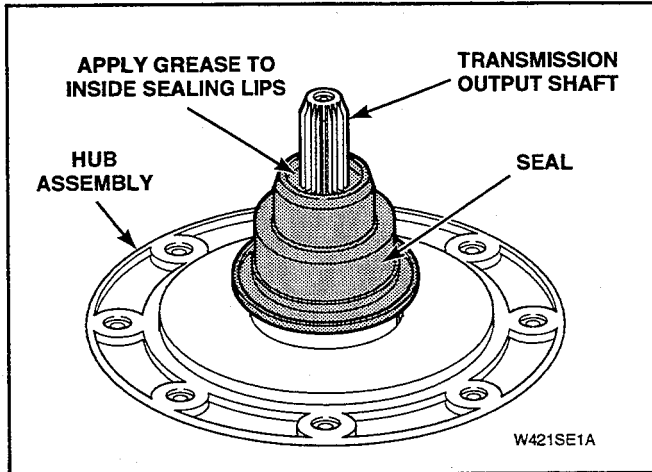

Figure 5-13
- Lubricate new seal with liquid soap or soapy water to aid in assembly of seal onto hub. See Figure 5-13.
- Apply a small amount of supplied grease, No. 36765P, to inside sealing lips of seal. See Figure 5-13.